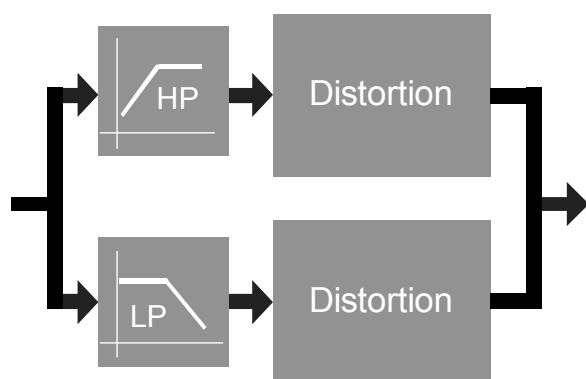

Fig. 8.4.3 2-band-distortion
The distortion unit of 'ebbe und flut' provides two parallel sections, working in the way described above. (fig. 8.4.3). One section works in the lower frequency range, while the second covers the higher range. It is a 2-band distortion, not unequal to a speakersystem. The **[low/high]-switch (6)** selects the crossover frequency.